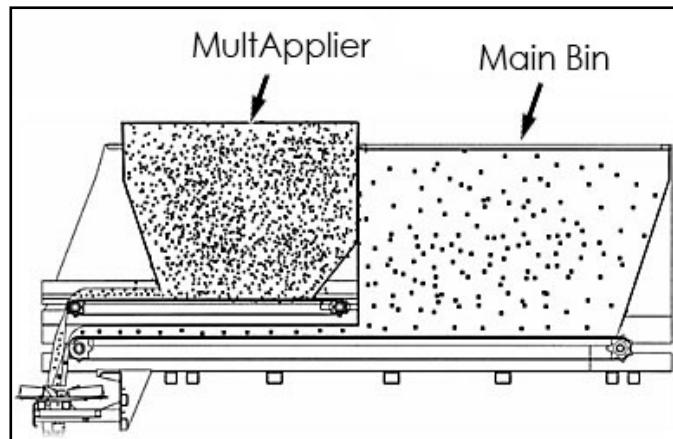

Figure 1- Main bin & MultApplier filled
2. Fill Main Bin and MultApplier (if equipped) with material to be spread (see Figure 1).